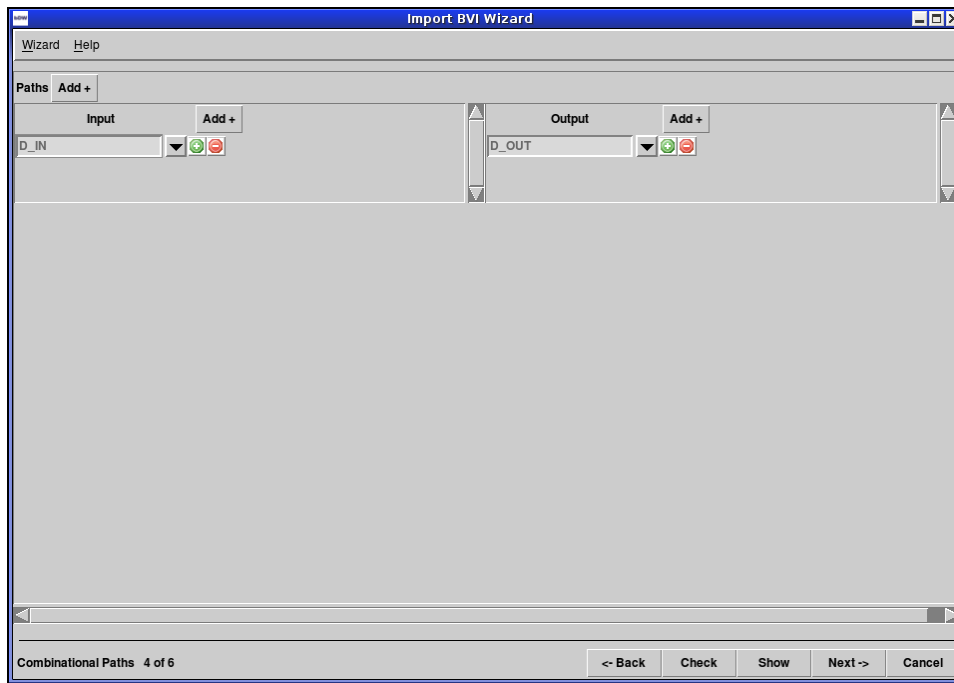

Figure 31: Step 4: Combinational Paths
Step 4 of the wizard, shown in Figure 31, defines the `path` statements. A `path` statement indicates a combinational path from the first port to the second port. The compiler assumes there will be a path from the input parameters of a `value` or an `ActionValue` method to its result, so these need not be explicitly specified.